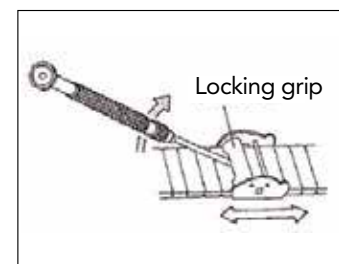

Fig.1
- 1) Using the screwdriver, simply pry open (up) the locking grip for adjustment (Fig. 1)